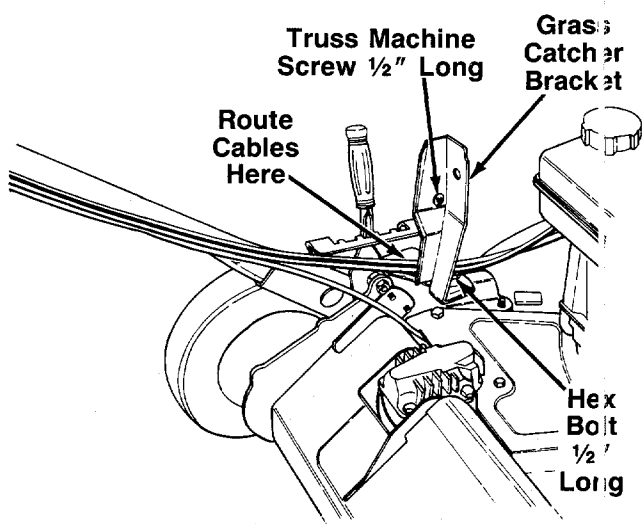

FIGURE 5.
7. Assemble the bottom of grass catcher bracket (Ref. 13) to the handle wheel bracket assembly on the left side of the mower as follows. See figure 5.